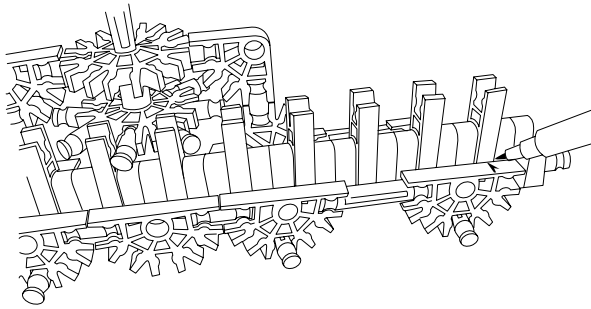
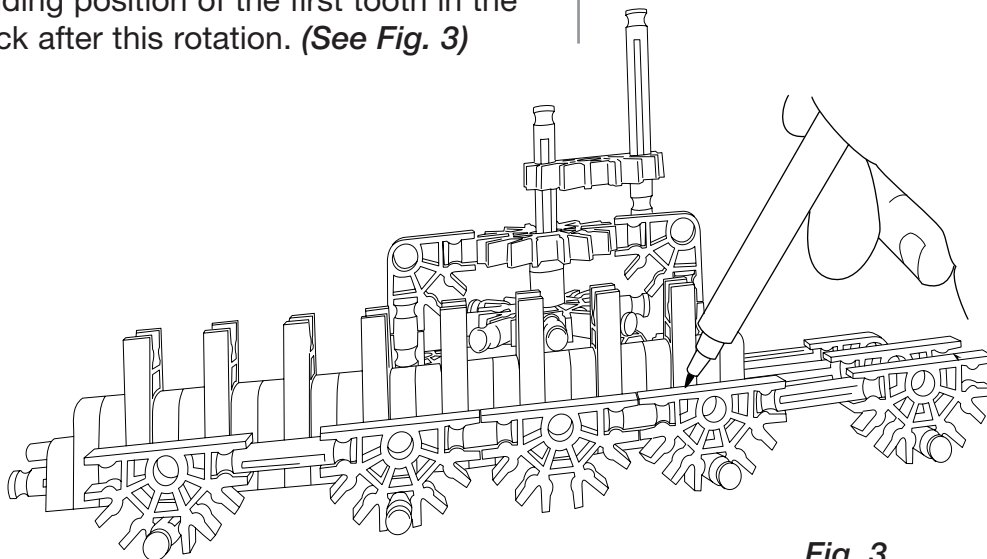

Fig. 2
Fig. 3
5. Using a washable marker, identify the starting position of the first tooth in the rack. (See Fig. 2) Alternatively, use a small piece of masking tape to identify the start position.
6. Turn the handle so the pinion moves through one-half turn. Since there are eight teeth on the pinion gear, you will reach that position when the fourth gear tooth is in the same position as the gear tooth shown in Fig. 2. Using a washable marker (or masking tape), mark the ending position of the first tooth in the rack after this rotation. (See Fig. 3)